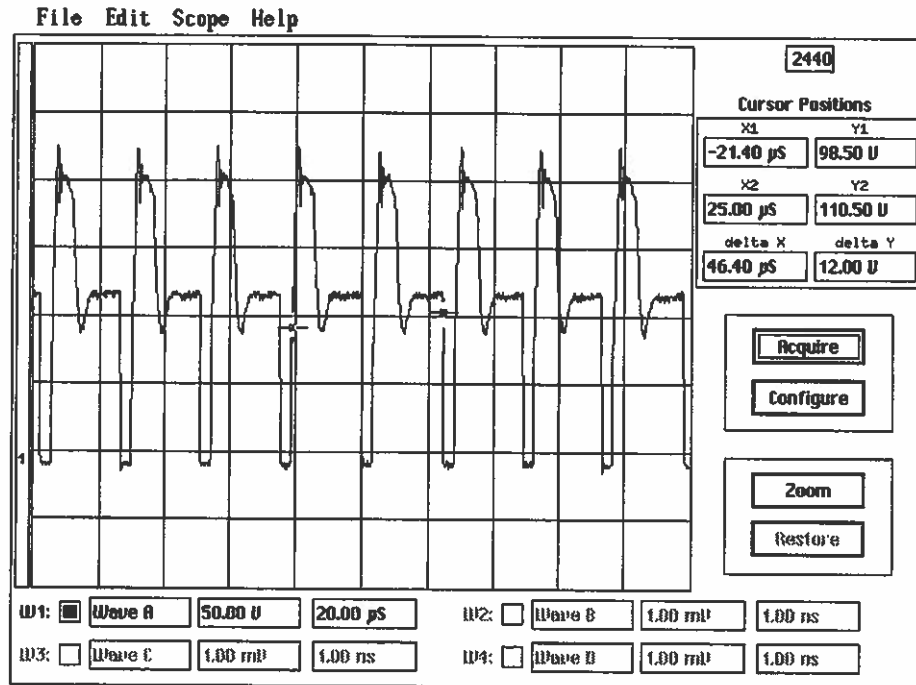

Figure 2
7. Verify waveform at anode of D1 with Figure 2.